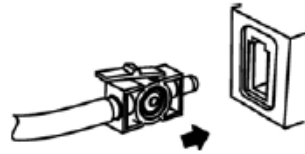

Figure 1
1. The sample cell of the sampling kit must be inserted into the sample cell receptacle of the LoFlo CO2 Module as shown in Figure 1. A “click” will be heard when the sample cell is properly inserted.